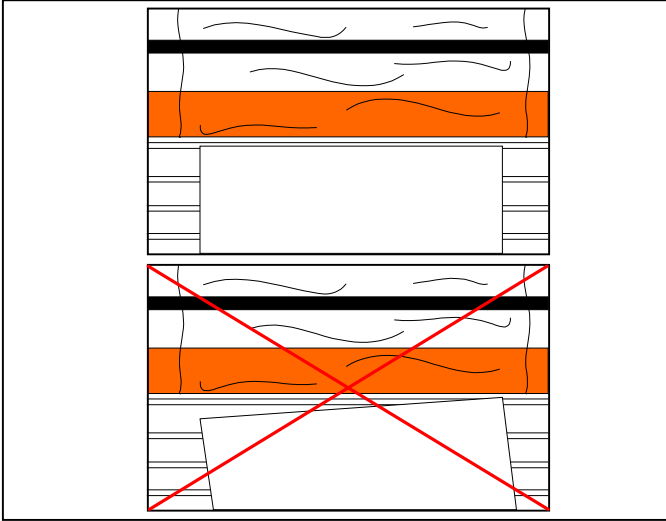

Fig. 29
8. Align the leading edge of the item square to the heat roller nip (Figure 29).